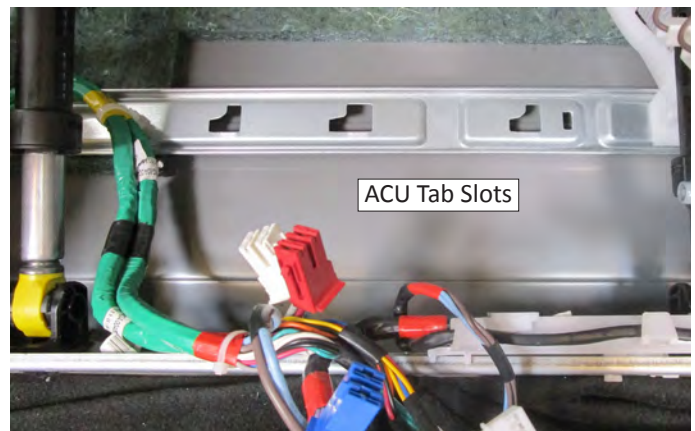

Figure 4
9. With the ACU detached, the control can now be removed from the cabinet. Note the tab slots for reinstallation (see Figure 4).